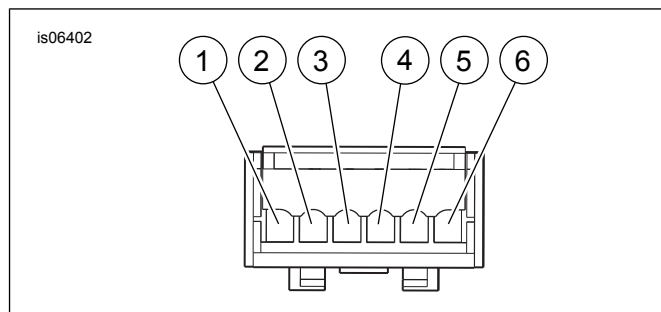

Figure 2. AMP Six-Way Pin Housing 73106-96BK (Wire-End View): Cavity Identification
4. Get the six-way AMP pin housing (12) from the kit. See Figure 2. Follow the instructions in the service manual to insert the adapter harness wires and pin terminals into the correct cavities of the housing: Amp Six-Way Pin Housing Cavity Identification